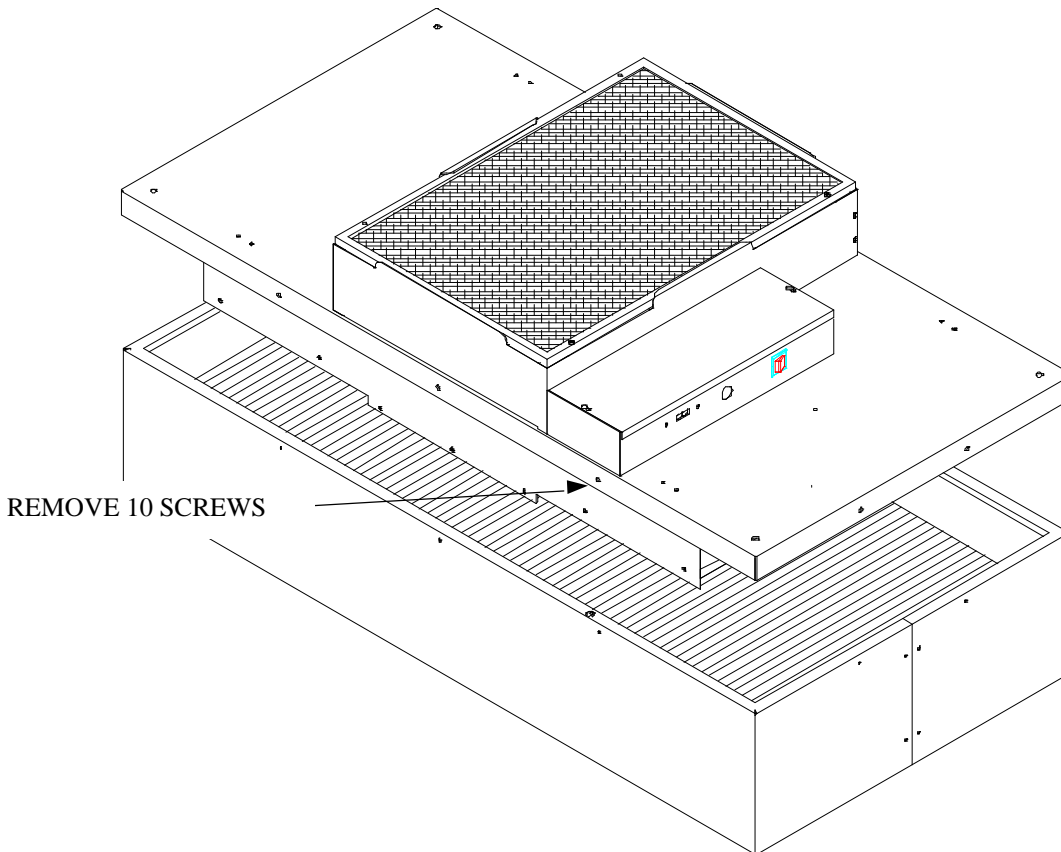

Figure 3
Step 3. Lift the lid assembly off the HEPA/ULPA filter (see Figure 3). Discard the used filter as per requirements of the applicable regulations.